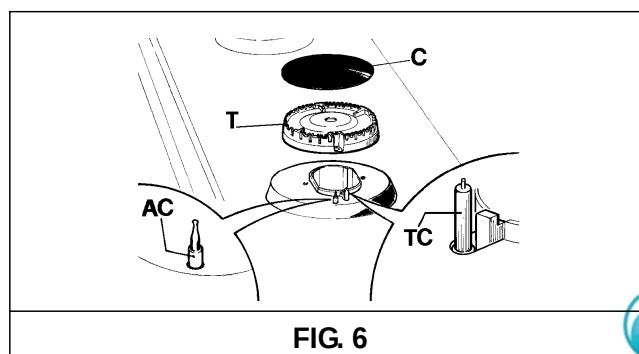

FIG. 6
Periodically wash the hot plate, the enamelled steel pan support, the enamelled burner caps "C" and the burner heads "M" (see fig. 6) with lukewarm soapy water. Following this, all parts should be thoroughly rinsed and dried. Never wash them while they are still warm and never use abrasive powders. Do not allow vinegar, coffee, milk, salted water, lemon or tomato juice from remaining in contact with the enamelled surfaces for long periods of time.
- ***Check that burner head slots "T" (fig. 6) have not become clogged by foreign bodies.***
- ***Check that enamelled burner cap "C" (fig. 6) have correctly positioned on the burner head. It must be steady.***